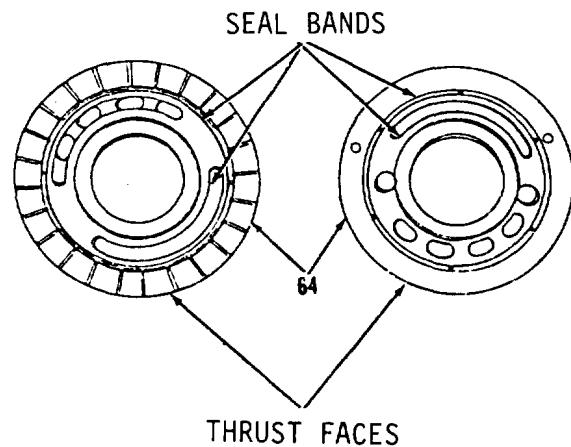

Figure 10-45.
1. Inspect plate (64, Figure 10-45). Use touch lapping procedure if polished in the seal band area, minor erosion or scratches. Use grit emery polishing paper and dry cleaning solvent for touch lapping. Replace if cracked, broken, erosion across seal bands, deep scratches in seal bands or ports, or scratches that can be felt in the seal band area or thrust faces with a fingernail or pencil.